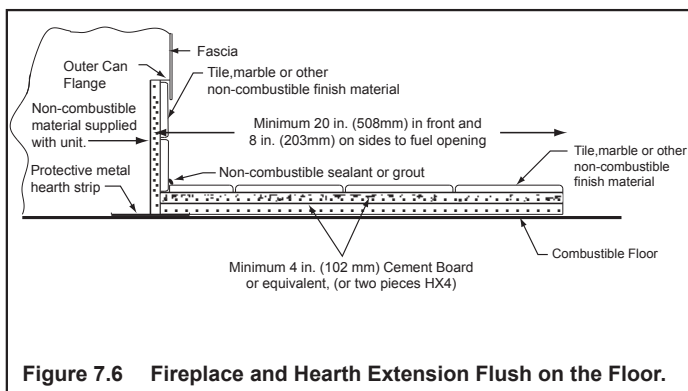

Figure 7.6 Fireplace and Hearth Extension Flush on the Floor.
The construction of, and materials used for a hearth extension are shown in Figure 7.6. A hearth extension of this construction may be covered with any non-combustible decorative material and may have a minimum thickness as per Figure 7.6. Seal gaps between the hearth extension and the front of the fireplace with a bead of non-combustible sealant or grout.
- A bead of Super Calstick or equivalent 1000°F high temperature sealant must be used to close off any gaps at the top and sides between the fireplace and non-combustible facing (Figure 7.6) to prevent cold air leaks and the risk of fire. Large gaps can be bridged with fiberglass rope gasket.
► Figure 7.6